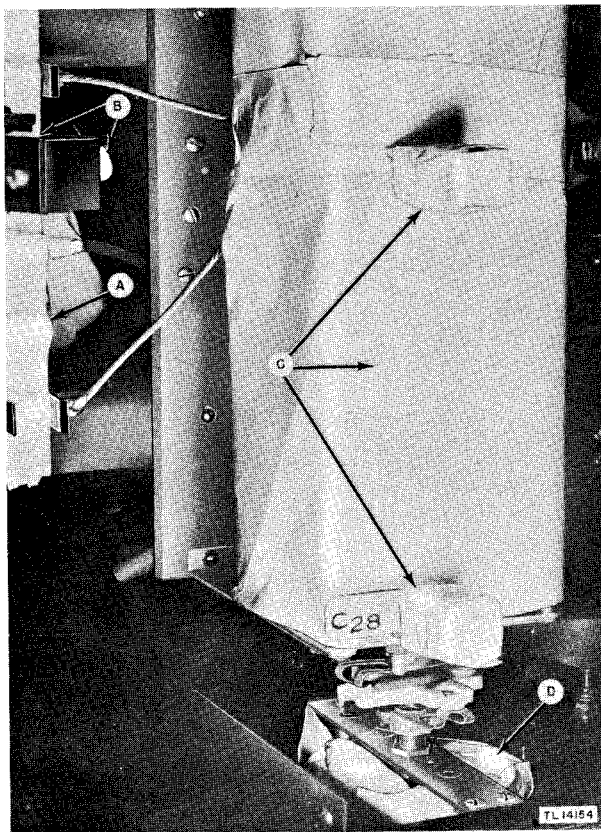

Figure 35. Radio Transmitter BC-610-E—top interior view of r-f chassis, showing method of masking.
(17) Jacks which receive antenna coil, item A, figure 35.
(18) Interlock switch, item B, figure 35.
(19) Plates of variable capacitor  $C_{12}$  and clip contacts of capacitor  $C_{28}$ , item C, figure 35.
(20) Drive gears of capacitor  $C_{12}$ , item D, figure 35.